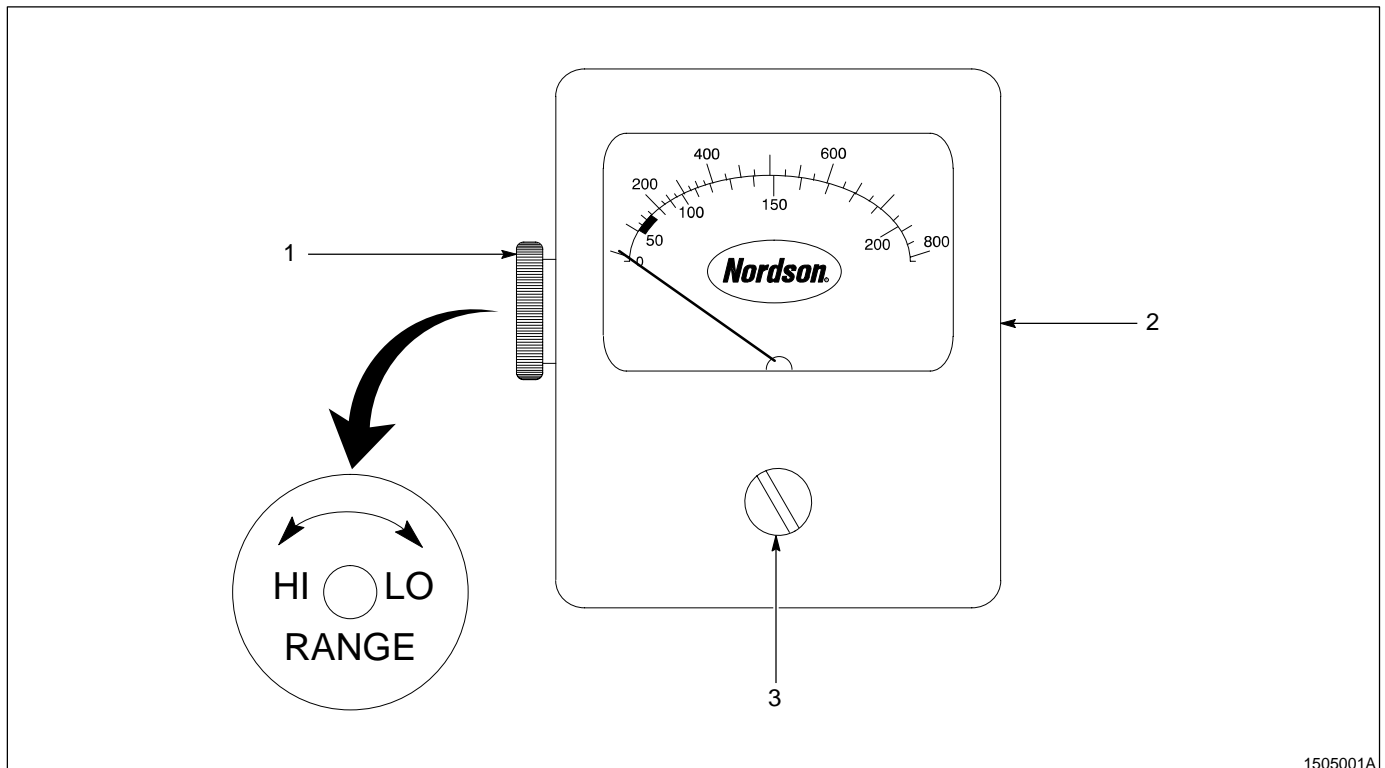

Fig. 1 Air Velocity Meter
See Figure 1. The air velocity meter checks spray booths and hood ventilators for proper air movement, locates overdrafts that lower the efficiency of electrostatic and other spray methods, and spots underdrafts that restrict removal of volatile emissions.
See Figure 1. To zero the meter, block the inlet and outlet (2) orifices and rotate the zero adjustment screw (3) slowly until the indicator needle points to 0 on the scale.
1. See Figure 1. Use the air intake dial (1) to select a range.
2. Hold the meter upright with both air inlet and outlet (2) orifices open.